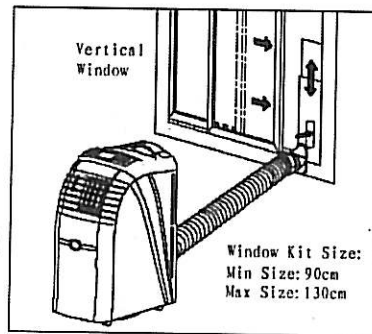
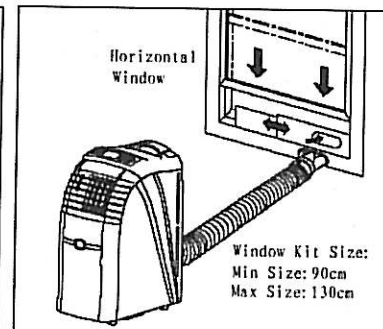

Fig. 3
Fig. 4
4. The window kit has been designed to fit most standard vertical (Fig. 3) and horizontal (Fig. 4) windows. However it may be necessary for you to modify some aspects of the installation procedures for certain types of windows. Once the window kit is in place, simply snap the window exhaust adapter into the hole provided on the window kit. You are now ready to use your portable air conditioner.